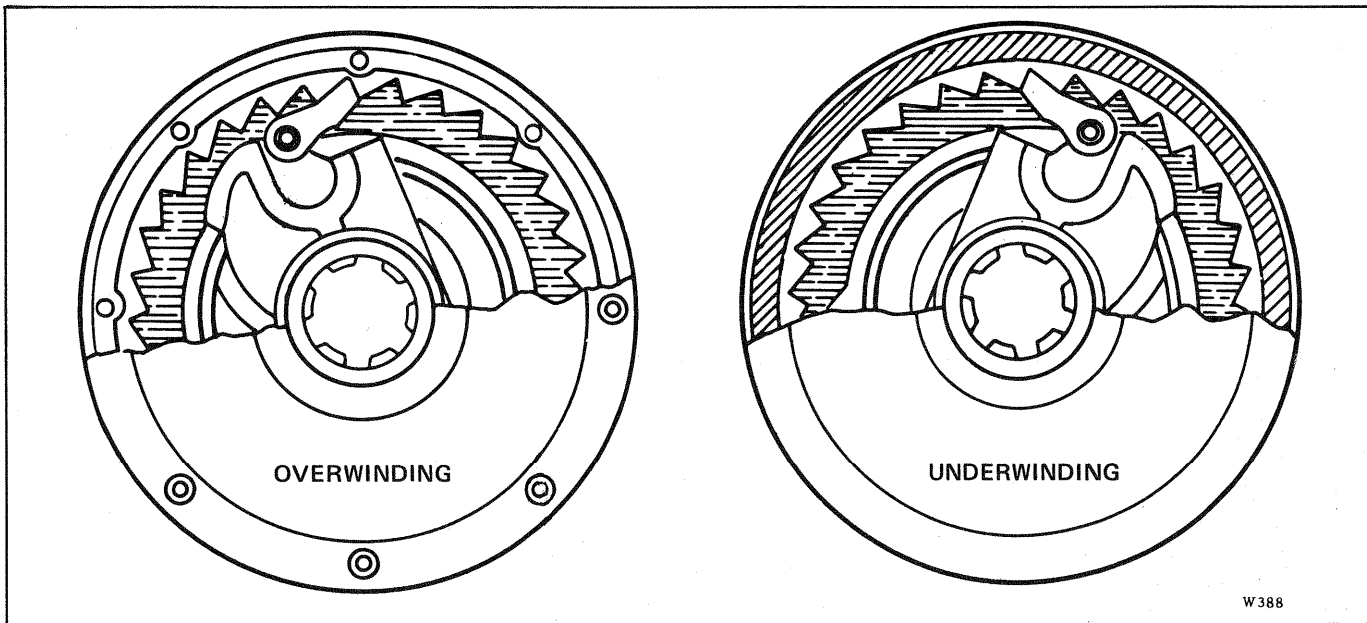

FIGURE 4-8. AUTOMATIC BRAKE (OPTIONAL L) OVERWIND AND UNDERWIND ARRANGEMENT
b. Automatic Brake (Optional). (See Figure 4-8.) Interchange position of brake band pins **A** and **B** per step a above. Remove the automatic brake assembly and reinstall so that the word OVERWINDING is facing outward.
a. **Brake Band.** (See Figure 4-8.) Change the anchoring end of the brake band by changing the positions of pins **A** and **B**.